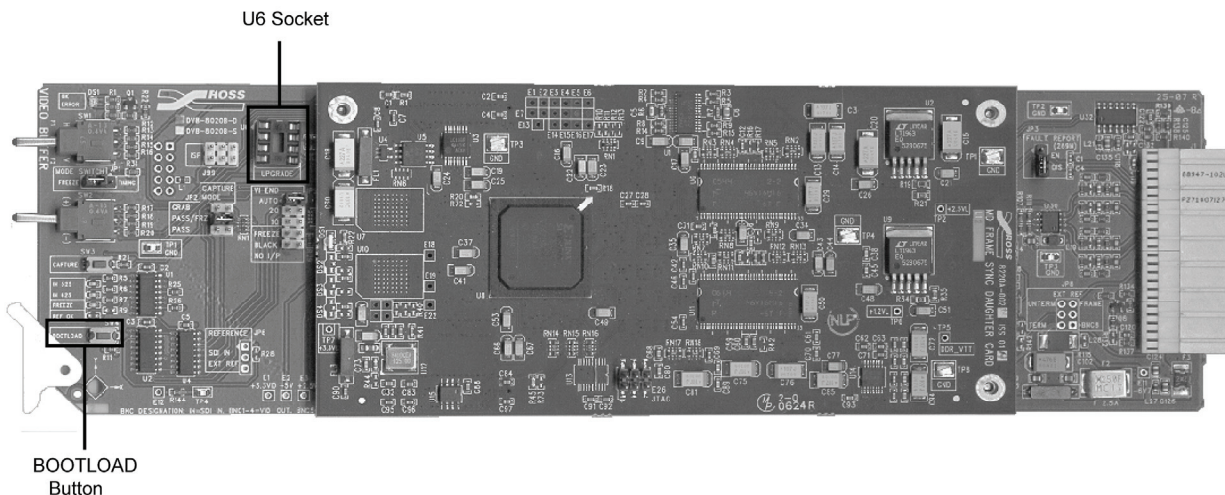

Figure 7. DVB-8020B-D Upgrade Socket and Label Locations
1. With the card out of the frame, refer to **Figure 7**, to locate the **U6** socket.